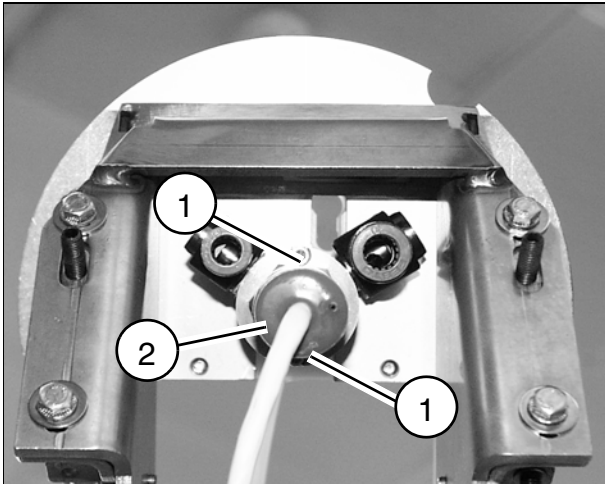

Fig. 21
- Remove the two screws (1/Fig. 21).
- Remove the lower part (2/Fig. 21).
- Reattach the lower part (2/Fig. 21).
- Tighten the two screws (1/Fig. 21).
- Remove both screws (1/ Fig. 21).
- Pull out the lower part (2/ Fig. 21).